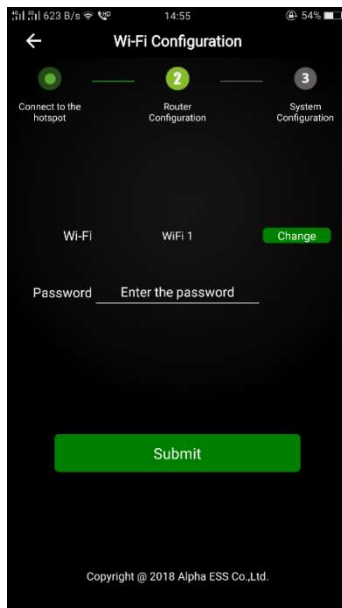
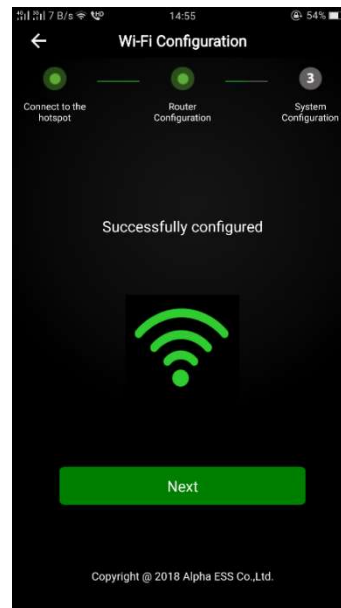

Figure 4.8 WiFi Setting
Figure 4.9 Configuration Success
Step 4: enter the WiFi account and password and then save it, the configuration is successful, click "next", as shown in Figure 4.8 and Figure 4.9.